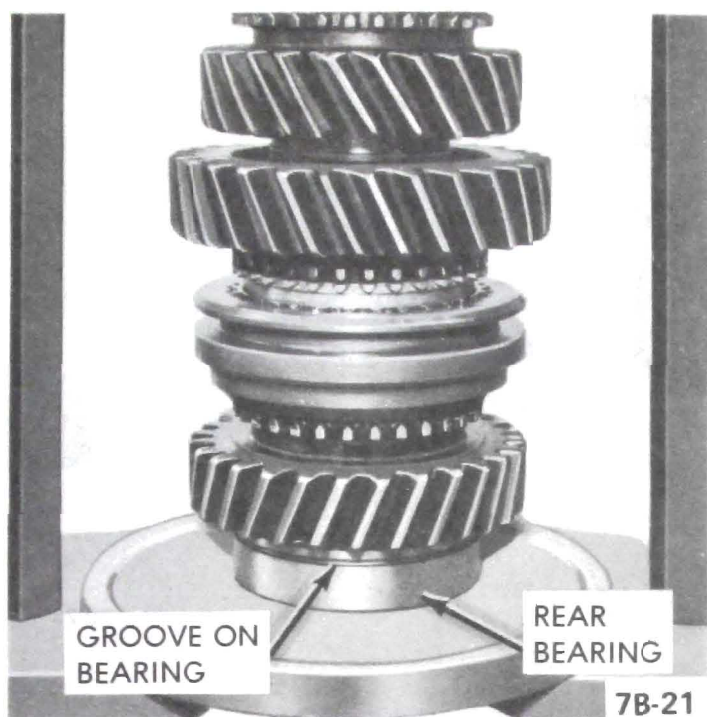

Figure 7B-21 - Installing Rear Bearing
(one on each side of hub) so all three (3) keys are engaged by both springs. See Figure 7B-16.